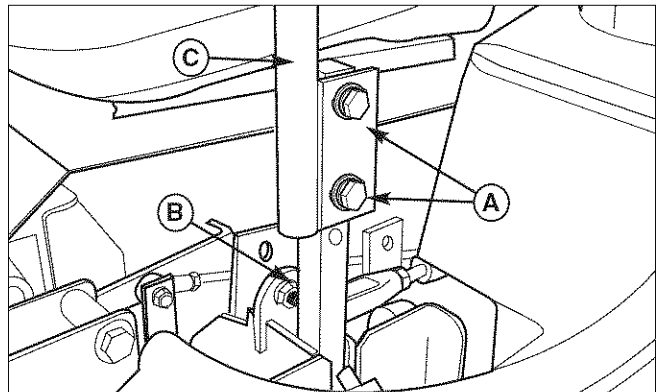

Figure 24. Control Lever Adjustment
To Adjust the Handle Alignment: Loosen the mount bolts (A, Figure 24) and pivot the lever(s) (C) to align with each other.
To Adjust the Handle Placement: Loosen the jam nuts and adjust the placement bolt (B, Figure 24) in or out to properly adjust the lever end spacing.